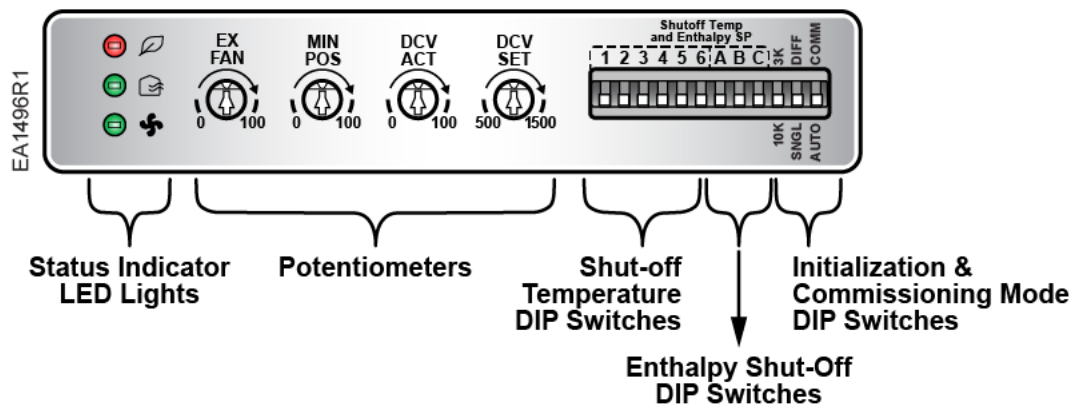

Figure 7. Economizer Control Adjustments.
2. Use the DIP switch to select a 3K or 10K sensor (see Figure 7).
3. Use the DIP switch to select Single (**SNGL**) or Differential (**DIFF**) mode (see Figure 7).
Move the DIP switch on the bottom of the controller to the **COMM** position (see Figure 7) to enter the Commissioning mode. When the Free Cooling LED and DCV LED blink red, this indicates that the controller is in the Commissioning mode. CC1 and CC2 are energized in the Commissioning mode, and the exhaust fan responds to the outside air damper.
The damper will be open and will allow for free cooling below the temperature shut-off setpoint selected from one of the six DIP switches located on the bottom right corner of the controller cover (see Figure 7).
- Set the DIP switch to **SNGL** (single) mode. See Figure 7.
- Set the DIP switch to **DIFF** (Differential) mode. See Figure 7.
- Set the DIP switch to **SNGL** (Single) mode. See Figure 7.
The controller will modulate the outside air damper based on the CO₂ level through the ppm value selected by the DCV SET potentiometer between the range of 500 and 1500 ppm, on the controller, as shown in Figure 7.
The exhaust fan shut-off point is selected by setting the **EX FAN** potentiometer to the desired level. See Figure 7.